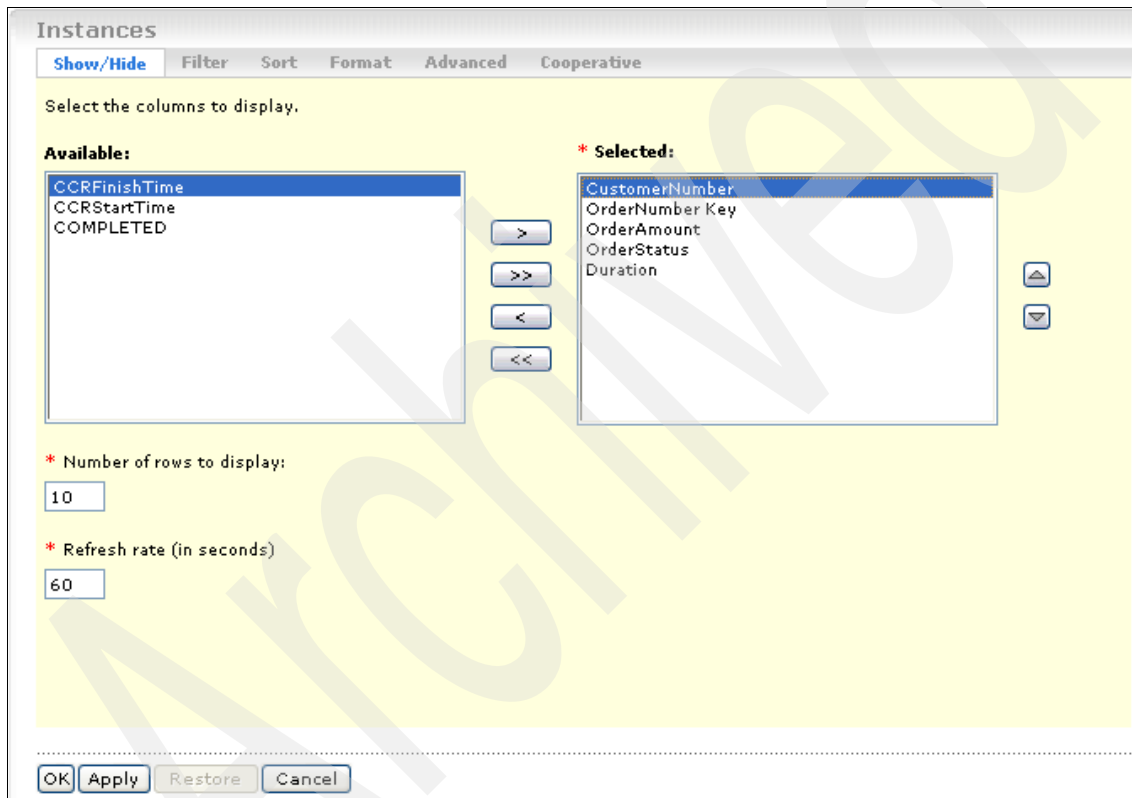

Figure 10-92 Selecting the columns to display in the dashboard
13. In the Instances - Show/Hide window (Figure 10-92), select the metrics to display in the Instances panel so that we can see the events that are being handled. For this example, we choose the following columns: